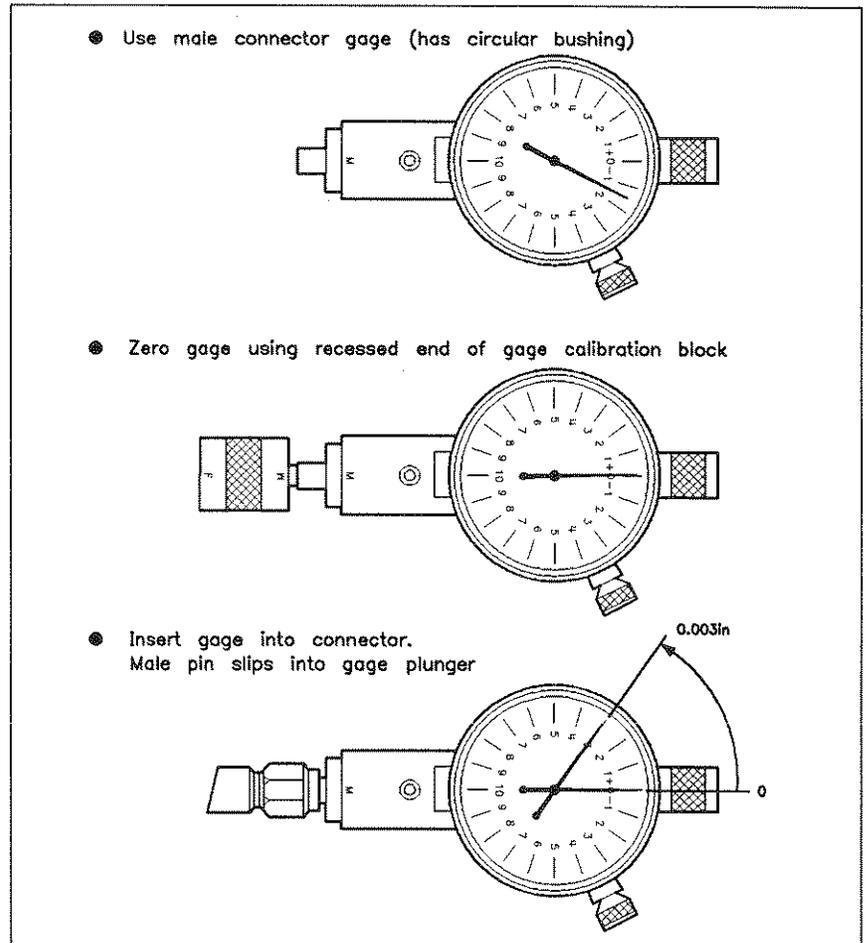

Figure 3-10.
1. Refer to Figure 3-10. The male SMA connector gage (usually marked M) has a circular metal bushing surrounding the gage plunger.